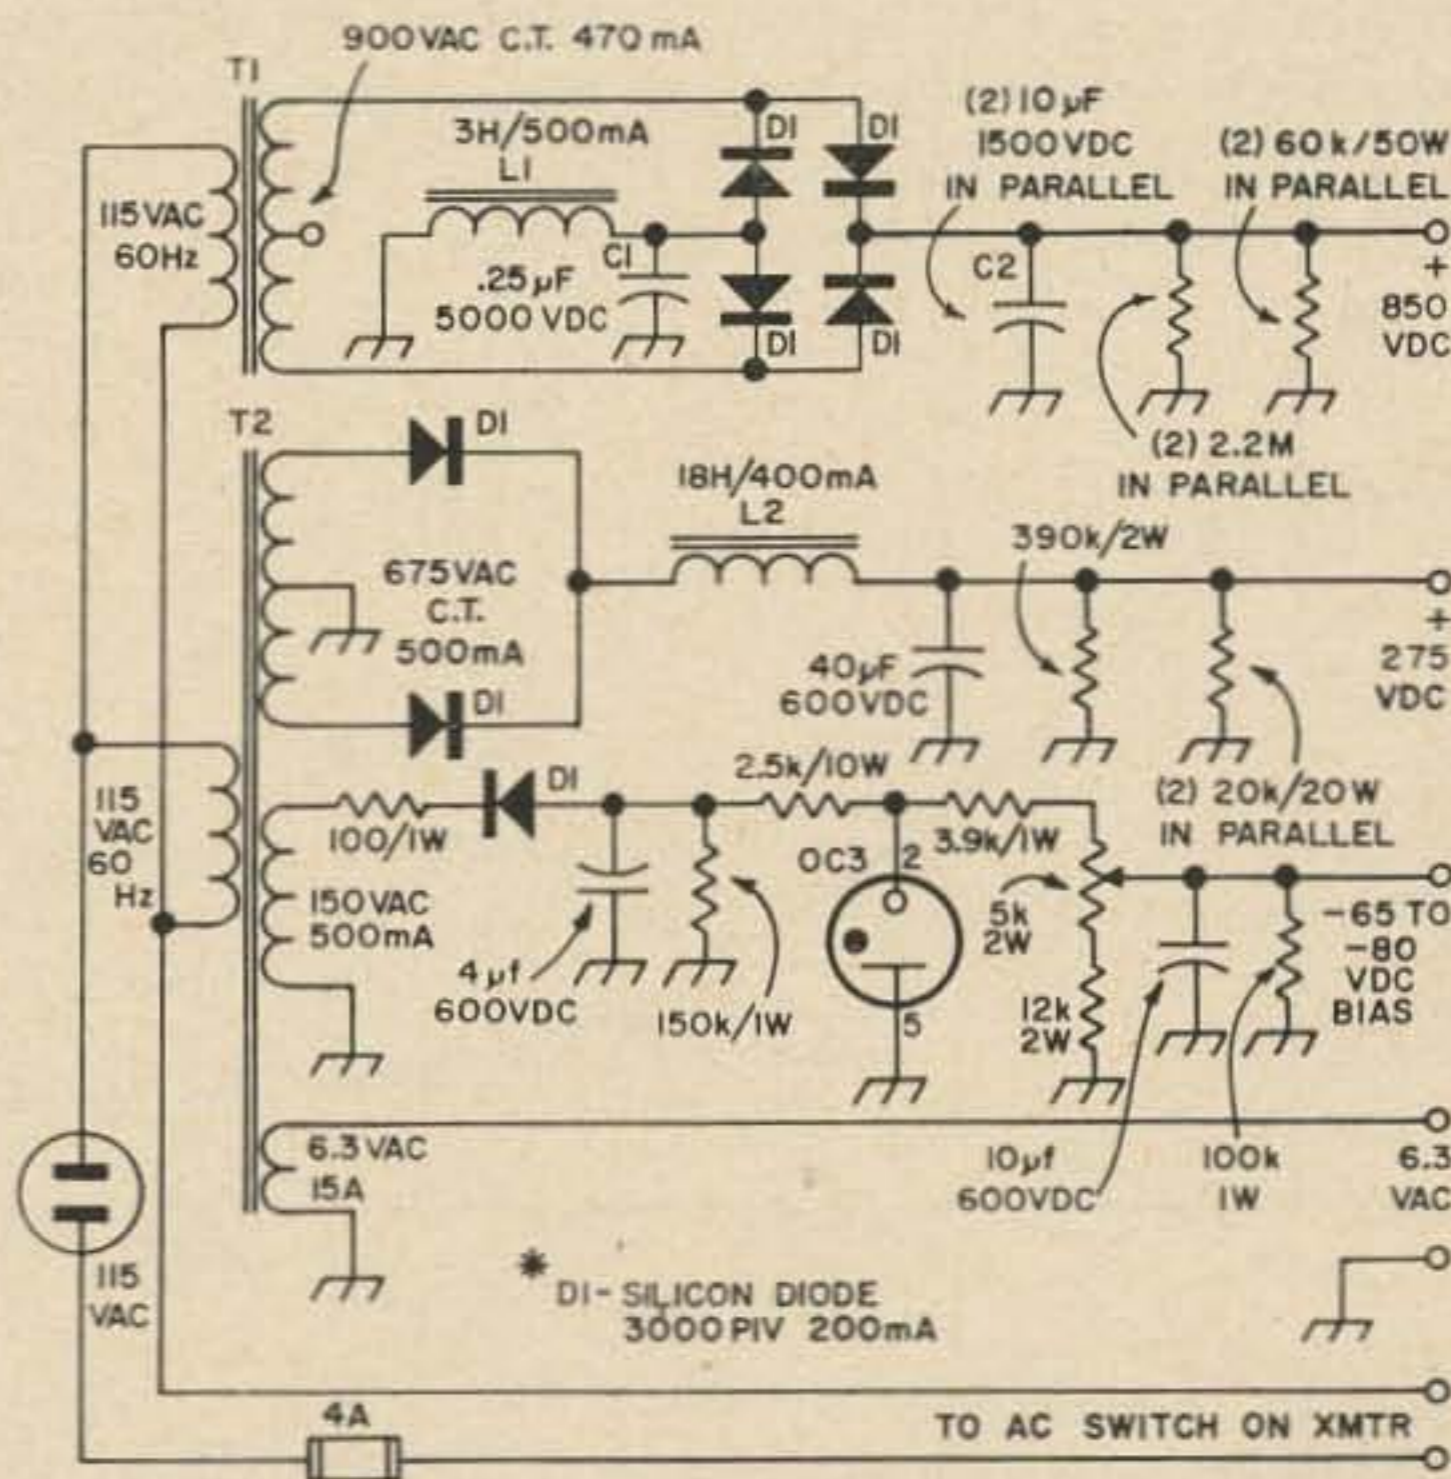

Fig. 1. Schematic of K6ZGQ's heavy duty transmitter power supply.
This is really an idea article, not a construction piece. Let's face it, your components won't be exactly like the writer's, nor will your voltage and current requirements likely be the same. However, the schematic of the author's supply is shown in **Fig. 1** to illustrate two points. First, note that every component is operating with a large safety factor. Second, the choke in the high-voltage section is operating in a resonant circuit in conjunction with C_1 . These two features are what make this supply different from most, and will be discussed below.
ripple component frequency. The idea is to use a choke with a low-inductance, high-current rating. This will guarantee a low dc resistance. Then the capacitor is properly chosen to resonate the choke. The lower limit on the choke inductance is reached when the capacitor value required begins to approach the value of the output capacitor (C_2 in Fig. 1). Usually a choke of about 2 henries is used, although other values are fine, depending on what you have on hand. The required bleed current with the resonant filter then is:
6. Note that in the high-voltage section, Fig. 1, the choke and parallel capacitor are in the negative lead, between the rectifiers and ground. This is to avoid having the high voltage on the choke, reducing the chance of insulation breakdown in this component.